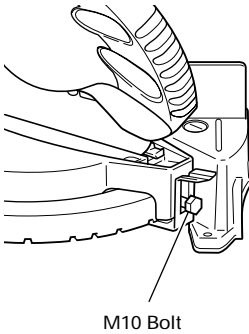

Fig. 9
7. Install the side handle (Fig. 9)